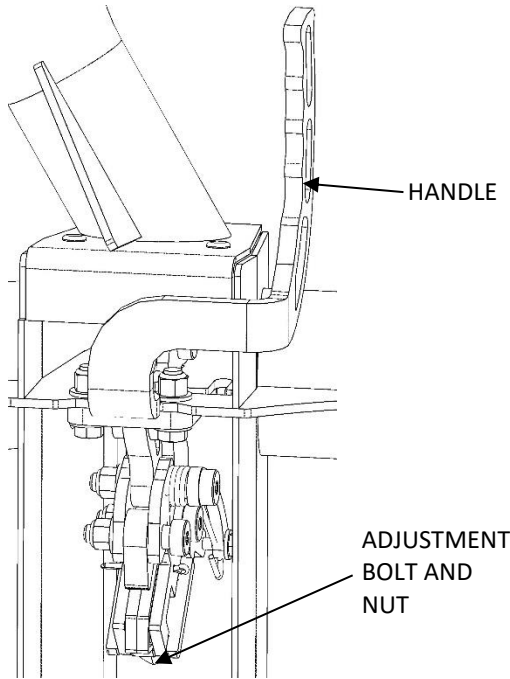

Figure 2a: GRIP LATCH
1. Insert Grip Latch into Grille as shown in Figure 2a.